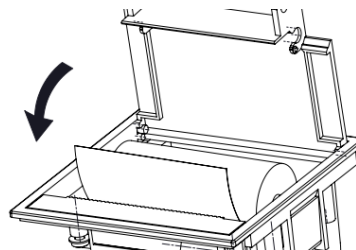

Figure 5-5
2. Place the front end of the paper roll directly at the paper exit and cover the paper compartment cover (Figure 5-5).